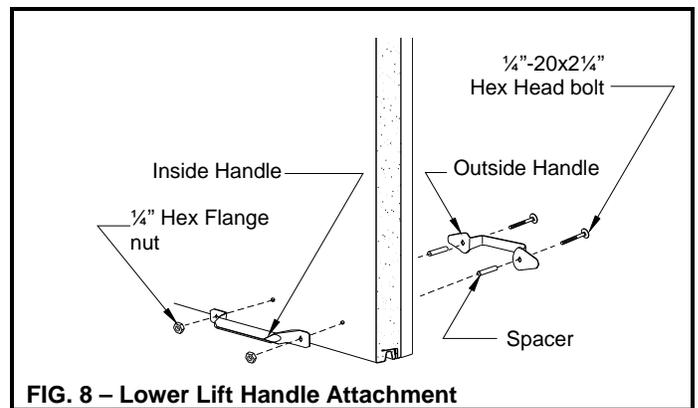

FIG. 8 – Lower Lift Handle Attachment
**Step 5:** Attach the black ornamental handle (outside) and the steel roll grip handle (inside) to the door using two 1/4"-20x2 1/4" black painted hex head bolts, and two 1/4" hex flange nuts (See Fig. 8).